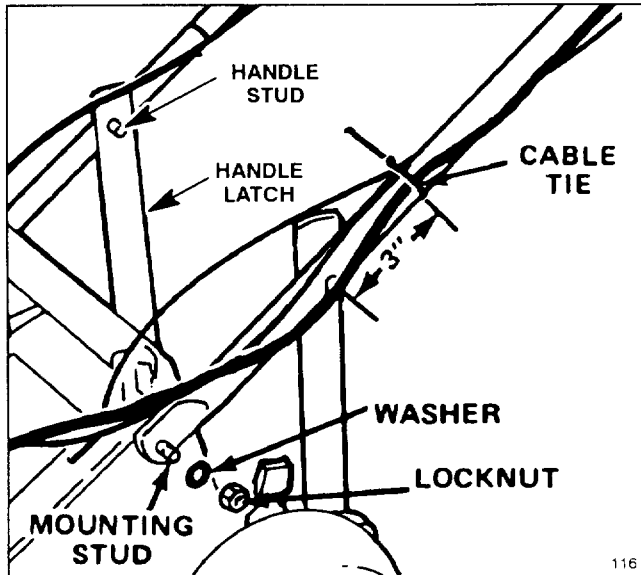

Figure 1
1. Spread handle ends and slide onto mower housing mounting studs (Fig. 1).
2. Secure each side of handle to mounting studs with a washer and locknut (Fig. 1).
3. Bend handle latches slightly inward. Move handle up or down to snap handle studs into middle hole on handle latches (Fig. 1).
4. Secure control cables to each side of handle, approximately 3 inches above handle stud, with cable ties (Fig. 1).